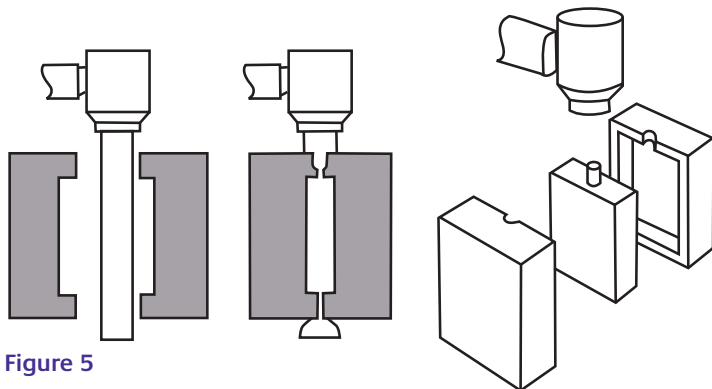

Figure 5
- Part is oriented so that the longest side is parallel to direction of parison drop (figure 5).